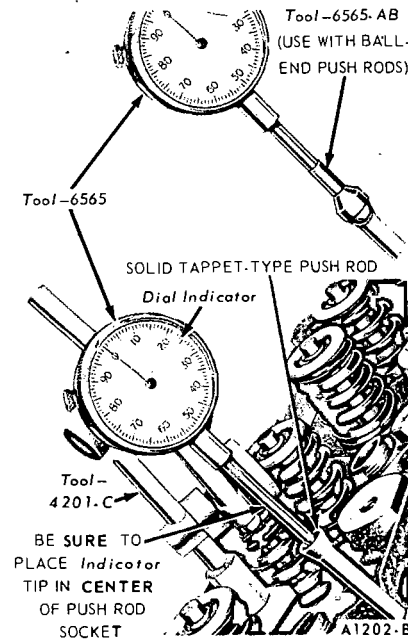

FIG. 2—Camshaft Lobe Lift—170 and 200 Six
2. On a 170 or 200 six or a 390 V-8, remove the valve rocker arm shaft assemblies and install a solid tappet-type push rod in the push rod bore of the camshaft lobe to be checked or use the adapter for ball-end push rods shown in Fig. 2.
4. Make sure the push rod is in the valve lifter socket. Install a dial indicator in such a manner as to have the ball socket adapter of the indicator on the end of the push rod and in the same plane as the push rod movement (Fig. 2 or 3).
On a socket-type push rod, position the actuating point of the indicator in the push rod socket and in the same plane as the push rod movement (Fig. 2).